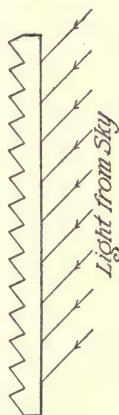

FIG. 442. — Section of plate of prism glass.
6. Prism glass, with a section like that shown in figure 442, is often used for the upper part of shop windows and doors and for windows facing on narrow courts. Why?